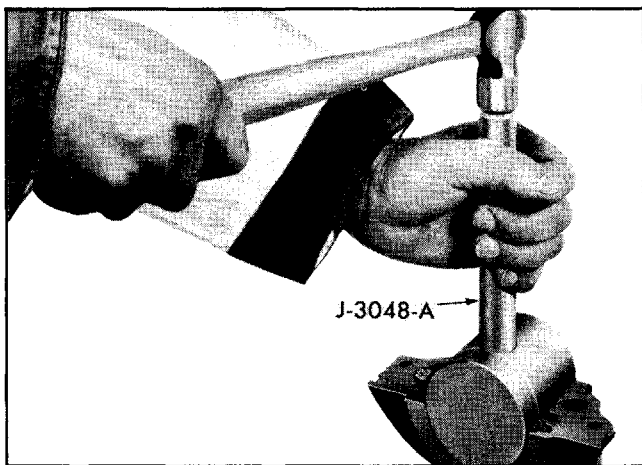

Fig. 6-28 Compressing Upper Seal in Bearing Cap
a. First install seal in cap with one end flush with cap and compress seal using hammer and Seal Compressor J-3048-A (Fig. 6-28). Do not pack seal into locking recess of cap.